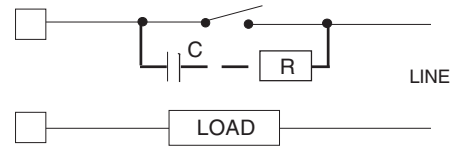

Fig. 12 EXTERNAL SWITCH IN SERIES WITH THE INTERNAL CONTACT
The same problem may occur when a switch is used in series with the internal contacts as shown in Fig. 12.
In this case it is recommended to install an additional RC network across the external contact as show in Fig. 12. The value of capacitor (C) and resistor (R) are shown in the following table.